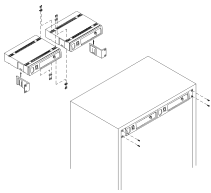

Fig. 7
4. After completion, it can be rackmounted into an EIA standard rack case. Shown in figure 7.